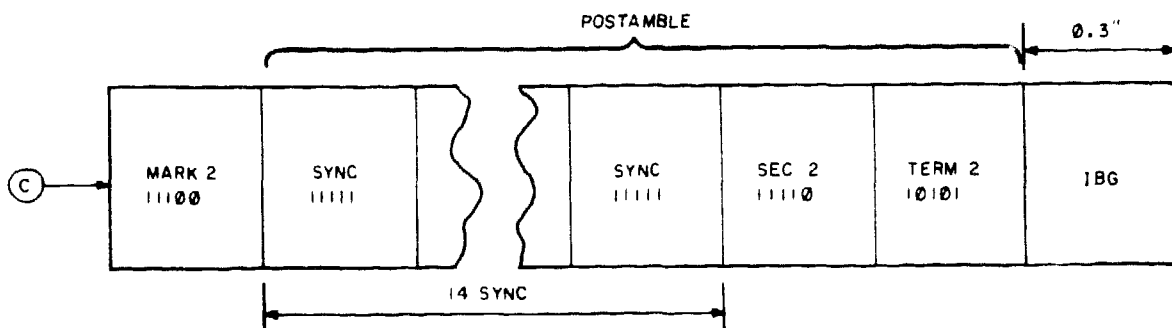

Figure 4-30D. DETAIL OF GCR TAPE FORMAT
- o POSTAMBLE (see Figure 4-30D) - A group of control signals at the end of the data block. There are 16 subgroups, the first 14 of which are synchronizing subgroups for the electronic synchronization of the circuits. The next to last subgroup is the Secondary (SEC) control subgroup and the last is the Terminator (TERM) control subgroup.